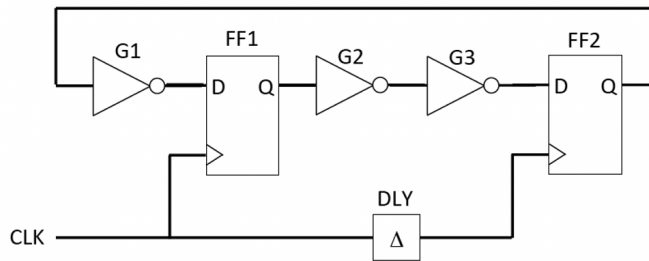

Figure 1.4
- (d) Consider the circuit shown in *Figure 1.4*. The propagation delay t_d of the inverters G1 to G3, and the clock-to-Q delay t_{cq} of the flip-flops FF1 and FF2, are in the range of 0.5ns to 1.0ns. The setup and hold times of the flip-flops FF1 and FF2 are 1.3ns and 1.1ns respectively. The clock to FF2 is driven through a delay element DLY with a delay of t_{dly} .